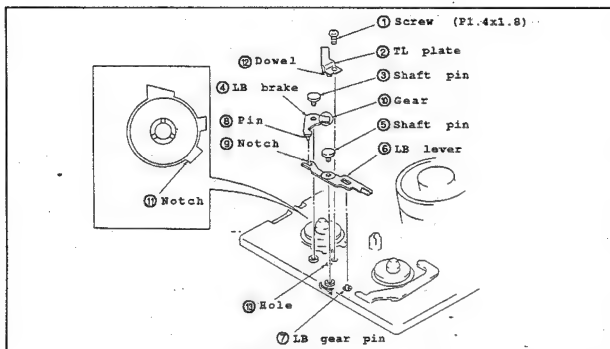

Fig.II-11
- (1) To take off the TL plate ②, remove the screw ①.
- (2) To take off the LB brake ④, remove the shaft pin ③.
- (3) To take off the LB lever ⑥, remove the shaft pin ⑤.
*Note: If the claw part of shaft pin ③ and ⑤ damaged, replace them.
• Reassembling (Fig.II-11)
- (1) Assemble the LB lever ⑥ while inserting the LB gear pin ⑦ to the hole of LB lever ⑥. Then, secure it with the shaft pin ⑤.
- (2) Assemble the LB brake ④ while inserting the pin ⑧ to the notch ⑨ of LB lever ⑥ and the gear ⑩ to the notch ⑪.
- (3) Install the shaft pin ③.
- (4) Assemble TL plate ② while aligning the dowel ⑫ and the hole ⑬. Then, secure it with the screw ①.